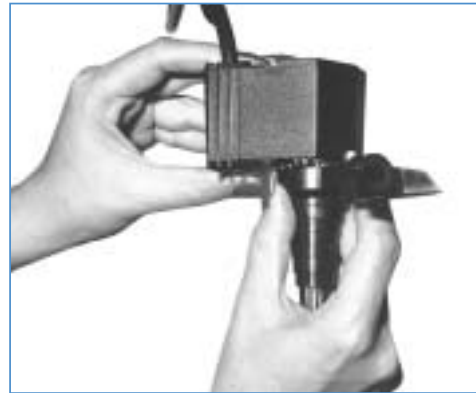

FIGURE 7
1. Unplug Power Head. Slip unit up and off aquarium frame. Rotate Exhaust Outlet (FIGURE 7) and gently uncouple Impeller Housing from power unit (FIGURE 8).